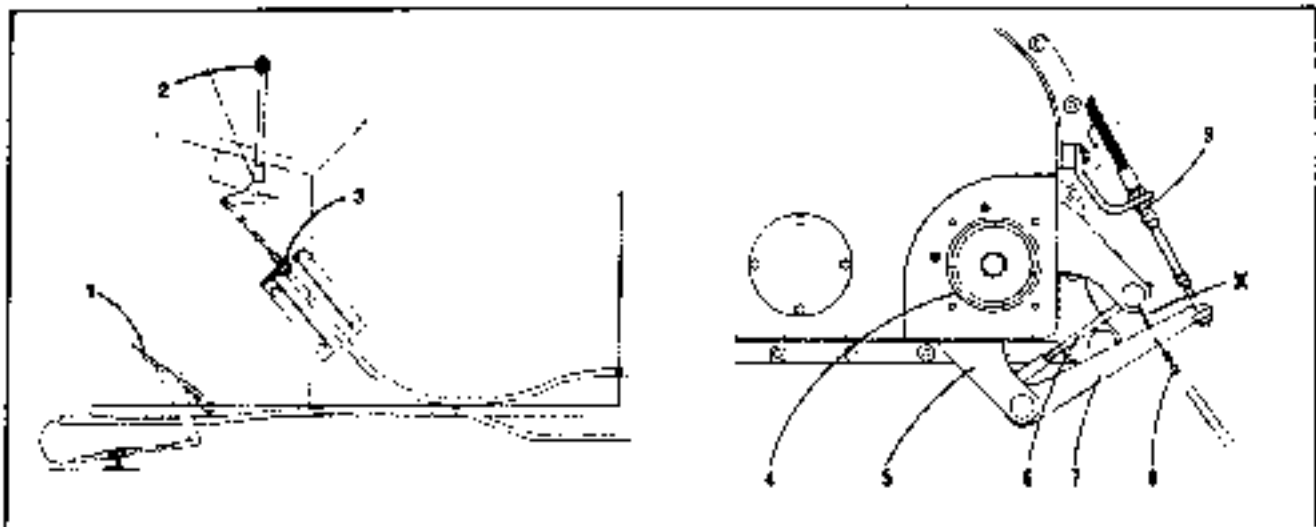

Fig. 3-17
- With the foot pedal (later models) at approximately 45° and the brake handle in the released position (pushed forward), adjust rod (6) to obtain 2 inches (51mm) at "X". Refer to Fig. 3-17.
- Adjust bulkhead connectors (9) so that the cable is bottomed out in this position.
- Lubricate the nut on rod (6) and tighten to 70 in/lbs (8.6 Nm) while maintaining the 1-1/2" (38mm) dimension.